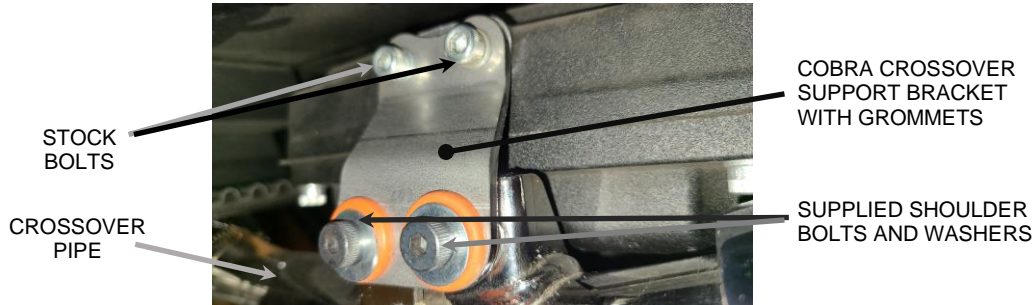

FIGURE 7
13. Apply blue Loctite on the (2) stock allen bolts, install them along with (2) stock washers into the mount bracket upper holes and transmission, lightly snug the bolts but **DO NOT TIGHTEN** at this time, see **Figure 7**. Adjust the crossover pipe fore and aft so the mount with grommets rest flush against the rear of the transmission case. **IMPORTANT: DO NOT** force the crossover pipe forward or backward or up and down to get it into position. If a lot of force is needed to align the crossover pipe and support bracket then adjust the rear head pipe collector assembly until it will align with only enough force to counter act the weight of the left side of the crossover assembly. Also, make sure the crossover pipe has clearance all around and does not make contact with the transmission pan. Adjust as needed while bolts are loose.
17. Make sure the front headpipe, rear headpipe collector assembly, left rear crossover pipe, and mufflers are aligned properly and tighten the (2) crossover support bracket shoulder bolts, then proceed to tighten the (2) previously installed stock allen bolts in the transmission case to factory specification. See **FIGURE 7**